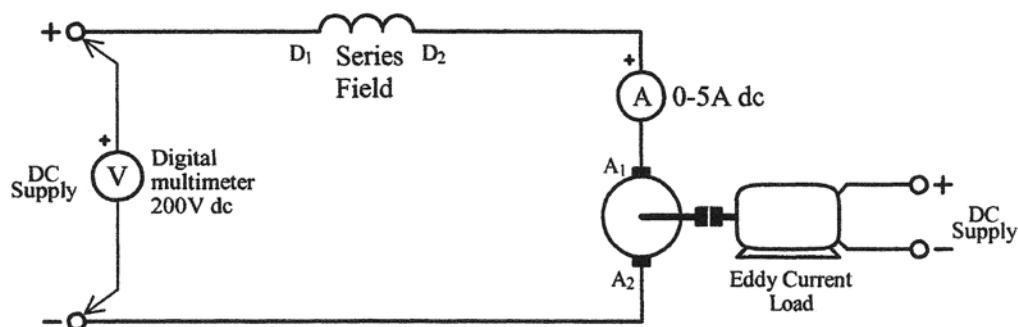

Figure 2
1. Connect the series motor as shown in figure 2.